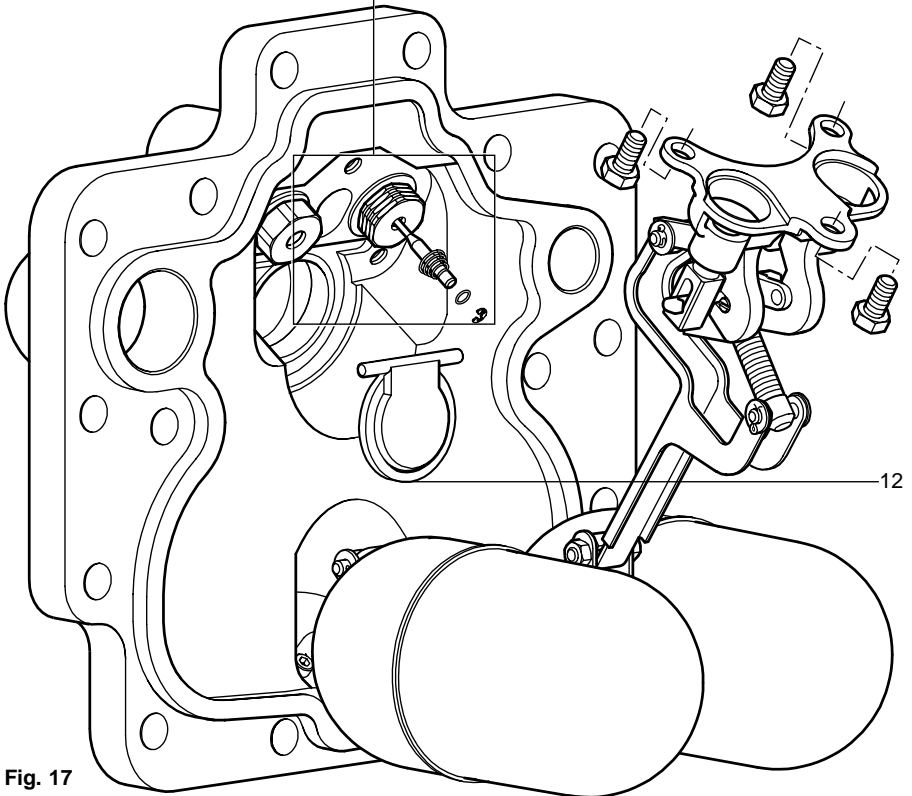

Fig. 17
3. Carefully remove the circlip, washer and the inlet valve spring (item 27) from the end of the steam inlet valve (item 17).
5. Lift away the pump bracket assembly (See Fig. 17). This will allow access to the inlet swing check valve (item 12).
13. Carefully reconnect the motive steam supply and the exhaust lines to the connections marked (IN) and (OUT). The APT14 is now ready to recommission.